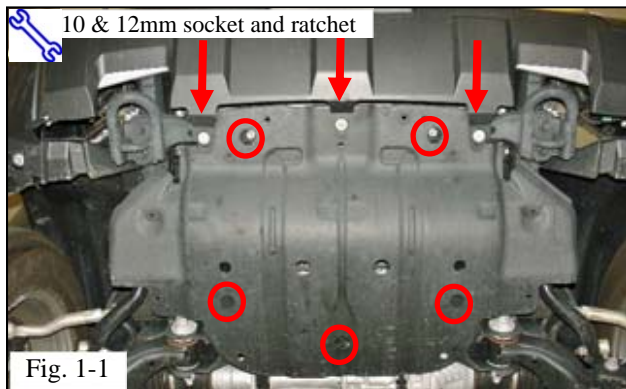

Fig. 1-1
- (a) Locate the three black plastic bumper tabs (red arrows) and use a 10mm socket to remove the three OE securing bolts (Fig. 1-1). Save the hardware to return it to the customer.
- (b) Locate the 5 engine under cover attachment points (red circles) and use a 12mm socket to remove the securing bolts (Fig. 1-1). Save the hardware to return it to the customer.